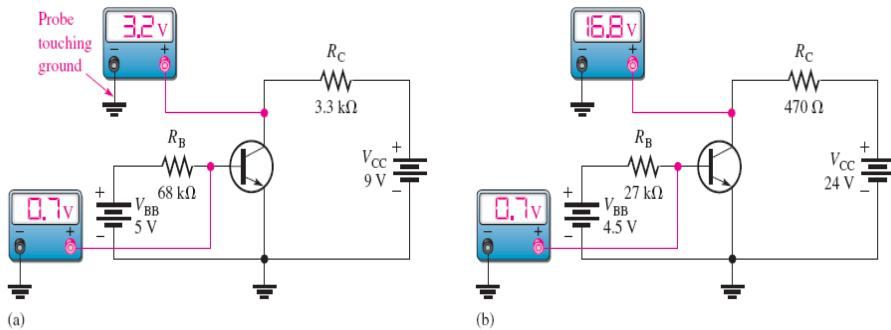

Figure 4–65
40. Calculate the power dissipation in each resistor in Figure 4–51 for both states of the circuit.
42. Develop a wiring diagram for the printed circuit board in Figure 4–52 for connecting it in the security alarm system. The input/output pins are numbered from 1 to 10 starting at the top.